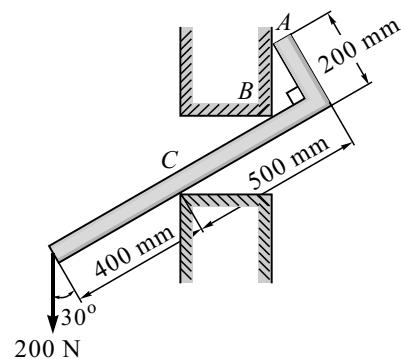

Fig. 3.E23
24. Two rollers of weights 50 N and 100 N are connected by a flexible string *AB*. The rollers rest on two mutually perpendicular surfaces *DE* and *EF* as shown in Fig. 3.E24. Find the tension in the string and the angle θ that it makes with the horizontal when the system is in equilibrium.